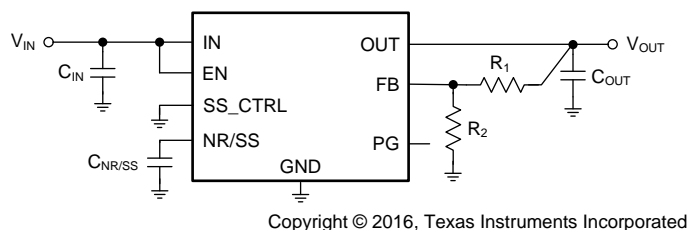

Figure 38. Adjustable Operation
As Figure 38 shows, the output voltage of the TPS7A9001 can be adjusted from 0.8 V to 5.2 V by using a resistor divider network.
(1) R_1 is connected from OUT to FB; R_2 is connected from FB to GND; see Figure 38.